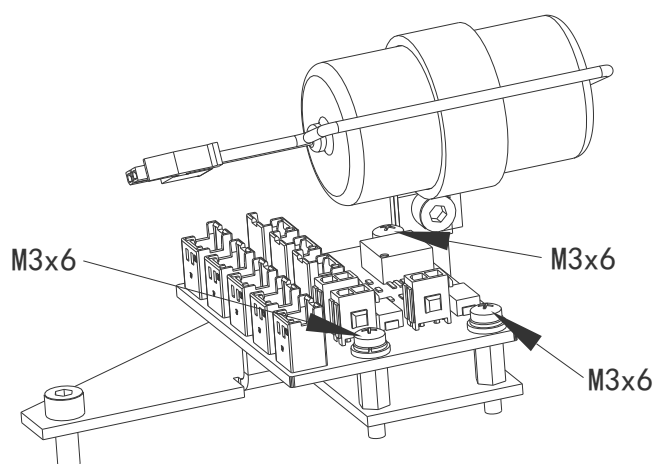

Figure 4-3 Remove the screws that fix the brake plate
Step 3 Remove the three cross screws M3x6 that fix the brake plate with a cross screwdriver and remove them, as shown in Figure 4-3.